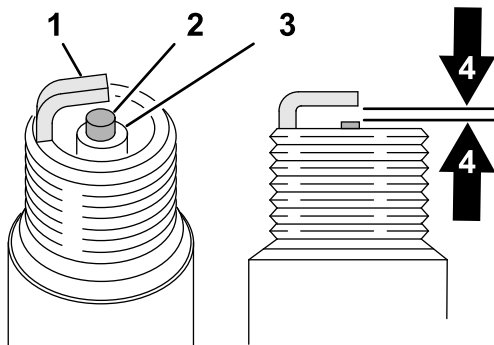

Figure 30
4. Examine the plug for wear and damage (Figure 30).
5. Check the spark-plug gap with a wire gauge (Figure 30).